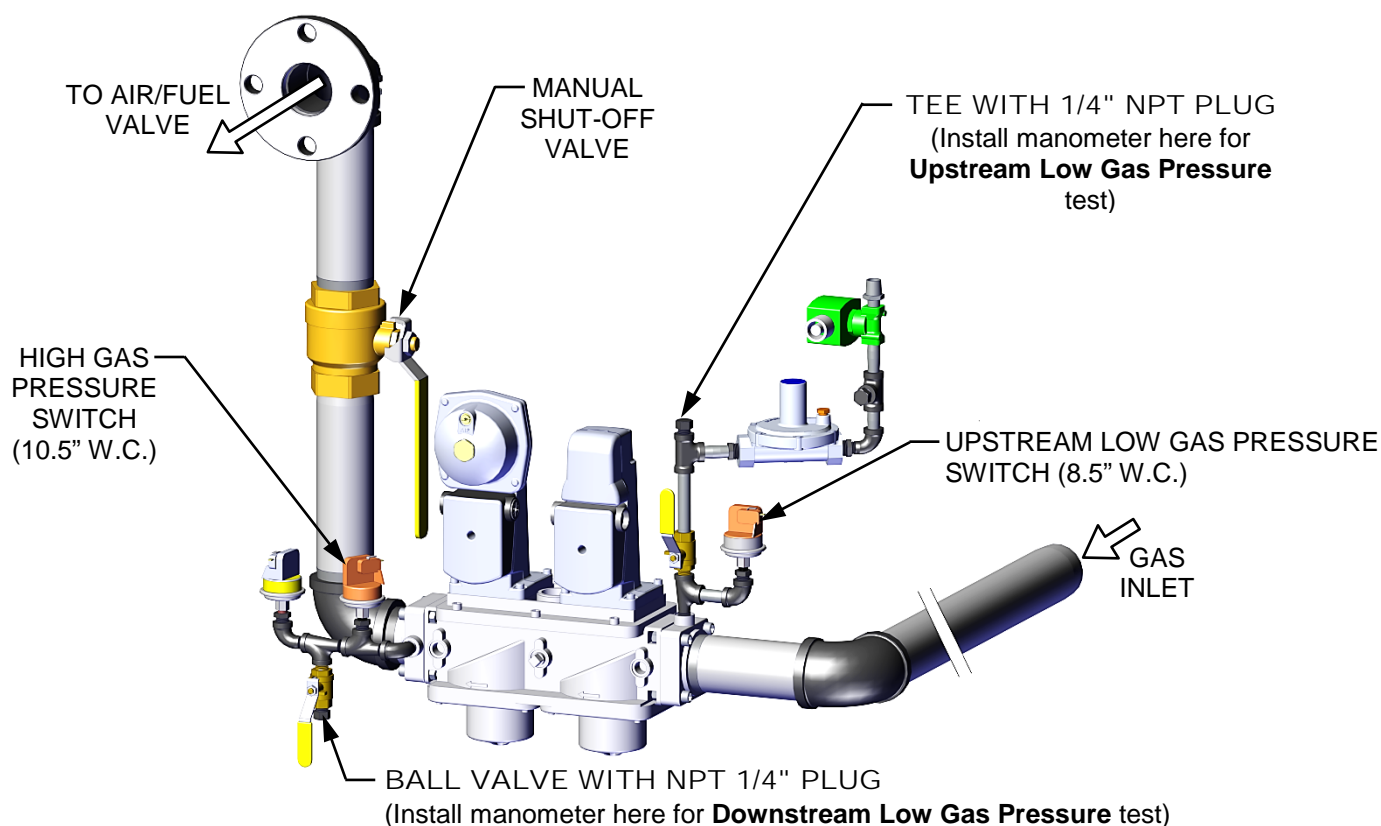

Figure 6-1A: Low Gas Pressure Switch Locations & Test Point Locations
The location for the Low Gas Pressure switch is shown in Figure 6-1A. The steps and pressure setting required to check the switch are described below. This switch is in the normally open (N.O.) position.
Refer to Figure 6-1A to locate the Low Gas Pressure switch and the proper location to connect the water column manometer or gauge when performing the test.
1. Remove the 1/4" plug from the Tee at the Low Gas Pressure switch shown in Figure 6-1A.